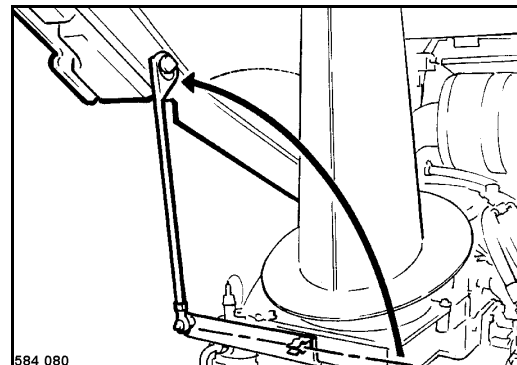

Fig. 76
- Pull the support out of the bracket and support the hood (Fig. 76).